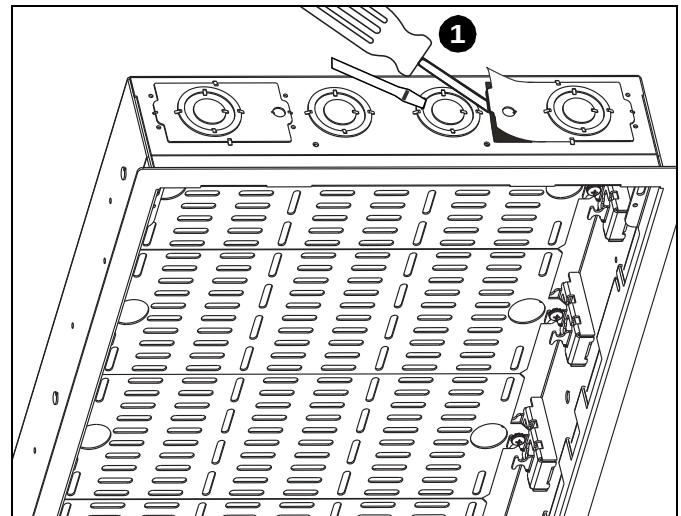

Figure 6
1. Remove knock-outs as determined in Step 4 of **Locating PAC527 section**. (See Figure 6)